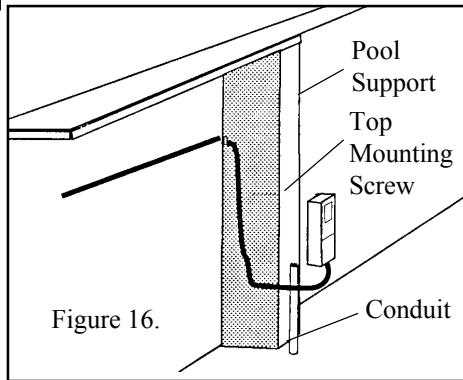
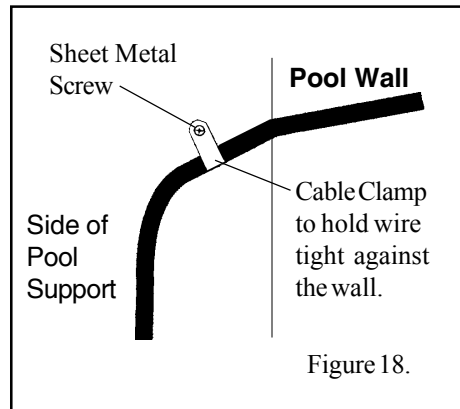

Figure 16.
Figure 18.
- Mount the transformer box on a pool support approximately 18 inches above the ground, in a position accessible to electrical connection; see Figure 16. To mount the transformer junction box, insert one of the screws provided, to a pool support.
- Using the cable clamp provided, attach the cable clamp to the cord and mount the cable clamp to the pool support, see Figure 18, so that the cord lies flush against the pool wall. Do not attach directly to the pool wall. This will keep the cord flush to the wall; see Figure 16.